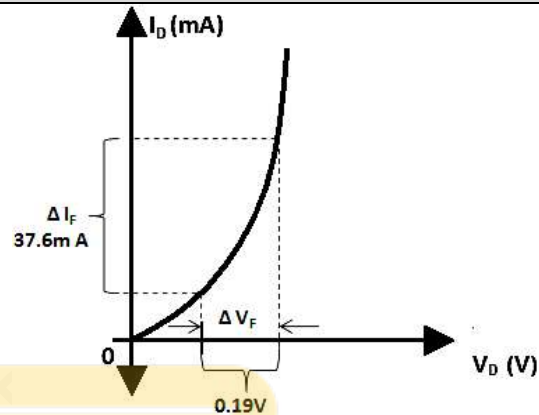

Fig. Ex 2
i.e., slope of fig Ex 2 = $\frac{1}{r_D} = \frac{\Delta I_F}{\Delta V_F}$